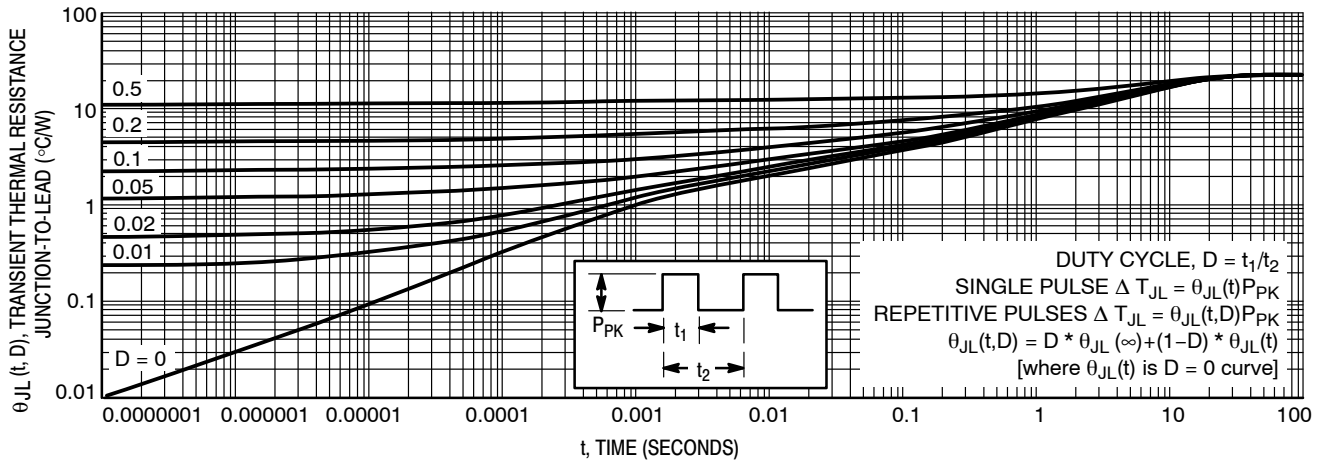
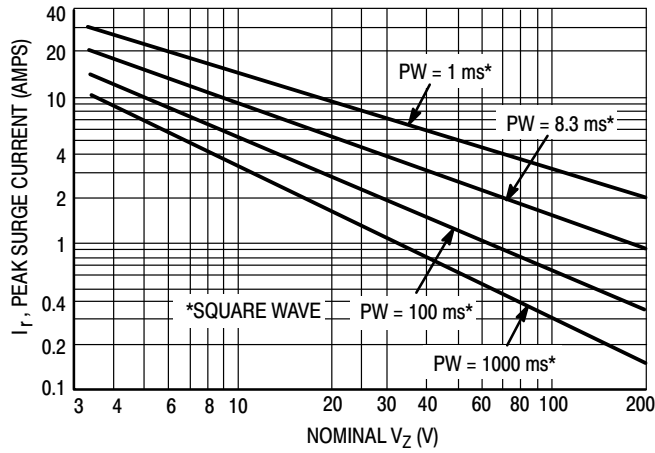

Figure 4. Typical Thermal Response
Figure 5. Maximum Non-Repetitive Surge Current
- SURGE CURRENT (I_R):** Surge current is specified as the maximum allowable peak, non-recurrent square-wave current with a pulse width, PW, of 8.3 ms. The data given in Figure 5 may be used to find the maximum surge current for a square wave of any pulse width between 1 ms and 1000 ms by plotting the applicable points on logarithmic paper. Examples of this, using the 3.3 V and 200 V zener are shown in Figure 6. Mounting contact located as specified in Note 2 ($T_A = 25^\circ\text{C} + 8^\circ\text{C}, -2^\circ\text{C}$).
- SURGE CURRENT (I_P):** Surge current is specified as the maximum allowable peak, non-recurrent square-wave current with a pulse width, PW, of 8.3 ms. The data given in Figure 5 may be used to find the maximum surge current for a square wave of any pulse width between 1 ms and 1000 ms by plotting the applicable points on logarithmic paper. Examples of this, using the 3.3 V and 200 V zener are shown in Figure 6. Mounting contact located as specified in Note 7 ($T_A = 25^\circ\text{C} + 8^\circ\text{C}, -2^\circ\text{C}$).
ΔT_{JL} is the increase in junction temperature above the lead temperature and may be found from Figure 4 for a train of power pulses or from Figure 1 for dc power.
Data of Figure 4 should not be used to compute surge capability. Surge limitations are given in Figure 5. They are lower than would be expected by considering only junction temperature, as current crowding effects cause temperatures to be extremely high in small spots resulting in device degradation should the limits of Figure 5 be exceeded.